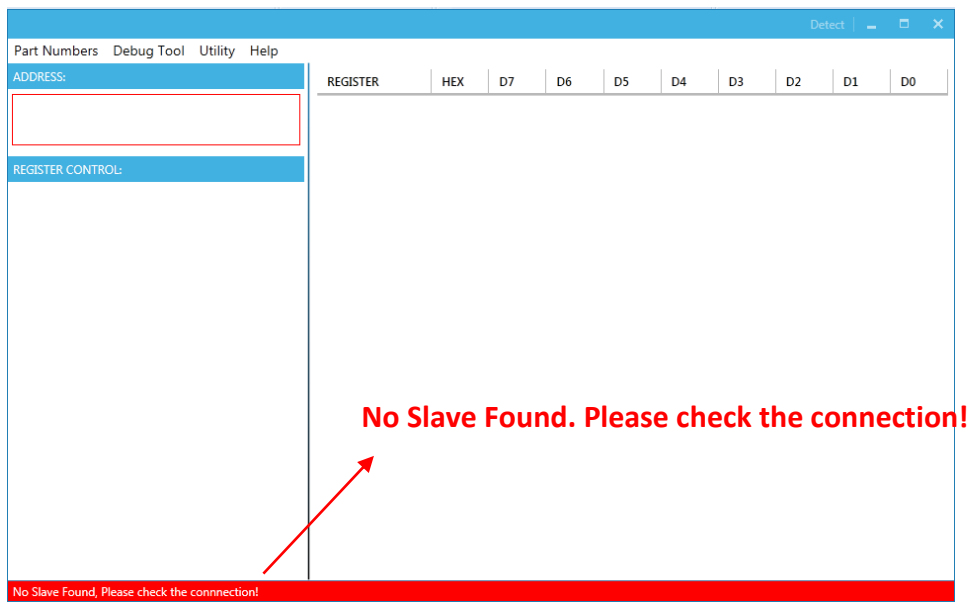

Figure 8: Warning Indicates Unsuccessful Connection – Evaluation Board Not Connected
- 1) “No Slave Found. Please Check the Connection!” This means that the evaluation board is not connected (see Figure 8).